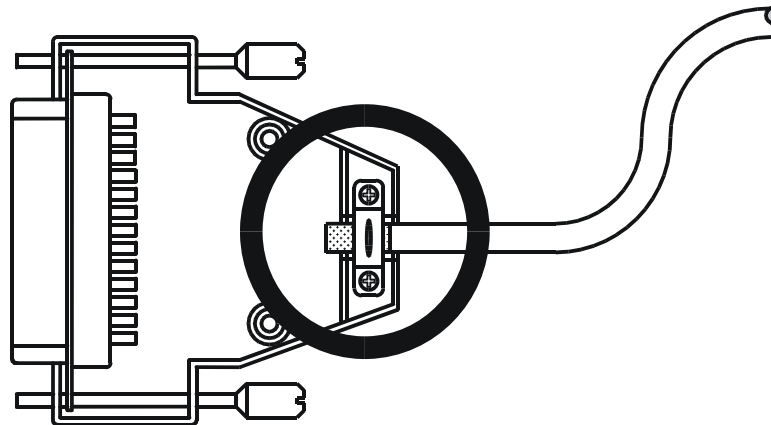

Fig.: 2: Shielding of Sub-D connectors in conformity with EMC standards
- Only use metallized connectors, e.g. Sub-D with metallized housing. Make sure that the strain relief is directly connected with the housing here as well (see fig. 2).